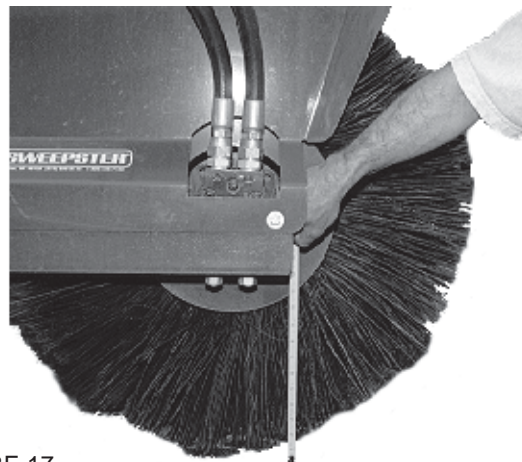

FIGURE 17
6. Position the brush head assembly straight ahead. On each side, measure from the brush frame to the ground (figure 17). If measurements are not equal: